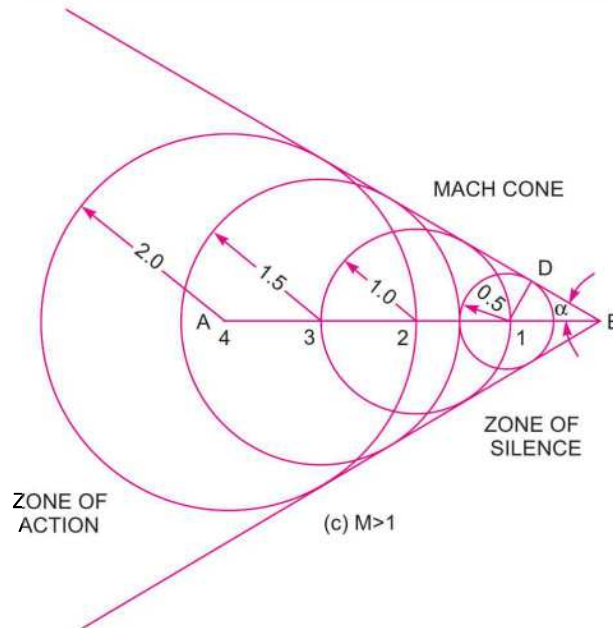

Fig. 15.3 Propagation of disturbance for different Mach numbers.
Let in 4 seconds the projectile reaches to the position  $B$ . At  $A$ , the point 4 is also marked. The position of the projectile after 1 sec, 2 sec, 3 sec and 4 sec along the lines are shown by the points 3, 2, 1 and  $B$  respectively. The projectile moves from  $A$  to  $B$  in 4 seconds and hence the distance  $AB = 4 \times V = 4 \times 1 = 4$  units. The disturbance created at  $A$  in 4 seconds will move a distance =  $4C = 4 \times 2 = 8$  units in all directions. Hence taking  $A$  as centre and radius equal to 8 units, a circle is drawn. This circle gives the position of disturbance after 4 seconds. When the projectile is at point 3, it will reach  $B$  in three seconds and distance  $3B = 3 \times V = 3 \times 1 = 3$  units. But the disturbance created at point 3 in three seconds will move a distance having a radius =  $3 \times C = 3 \times 2 = 6$  units. Similarly at point 2, the disturbance will have a radius =  $2 \times C = 4$  units and at point 1, the disturbance will have a radius =  $1 \times C = 1 \times 2 = 2$  units. This is shown in Fig. 15.3 (a).
**2nd Case : When  $M = 1$ .** When  $M = 1$ , the flow is known as sonic flow. In this case, the disturbance always travels with the projectile as shown in Fig. 15.3 (b). Let  $V = 1$  unit, and  $C = 1$  unit so that  $M = \frac{V}{C} = \frac{1}{1} = 1.0$ . Let the projectile moves from  $A$  to  $B$  in 4 seconds. The disturbance created at  $A$  in 4 seconds will move a distance having radius =  $4 \times C = 4 \times 1 = 4$  units in all directions. The projectile
**3rd Case : When  $M > 1$ .** When  $M > 1$ , the flow is known as supersonic flow. Let  $V = 1$  unit and  $C = 0.5$  unit so that  $M = \frac{V}{C} = \frac{1}{0.5} = 2.0$ , which is greater than unity. Let the projectile moves from  $A$  to  $B$  in 4 seconds. The distance travelled by the projectile in 4 seconds  $= 4 \times V = 4 \times 1 = 4$  units. Hence, take  $AB = 4$  units. The disturbance created at  $A$  will move in all directions and in 4 seconds, the radius of disturbance will be equal to  $4 \times C = 4 \times 0.5 = 2$  units. Hence taking  $A$  as centre, draw a circle with radius equal to 2 units. After one second from  $A$ , the projectile will be at point 3 and distance  $A3 = V \times 1 = 1 \times 1 = 1$  unit. The projectile from point 3 will reach point  $B$  in three seconds. Hence the disturbance created at point 3 will move in all directions and in three seconds, the radius of disturbance from point 3 will be equal to  $3 \times C = 3 \times 0.5 = 1.5$  units. Similarly the radius of disturbance at point 2 and 1 will be  $2 \times C = 2 \times 0.5 = 1$  unit and  $1 \times C = 1 \times 0.5 = 0.5$  unit respectively as shown in Fig. 15.3 (c). In this case the sphere of propagation of disturbance always lags behind the projectile. If we draw a tangent to the different circles which represent the propagated spherical waves on both sides, we shall get a cone with vertex at  $B$ . This cone is known as **Mach Cone**.
**15.6.1 Mach Angle.** This is defined as the half of the angle of the Mach cone. In Fig. 15.3 (c), angle  $\alpha$  is known as Mach angle. In the  $\triangle 1BD$  of Fig. 15.3 (c), the distance  $1B =$  Velocity of projectile  $= V$ , the distance  $1D =$  Velocity of sound wave  $= C$ . Hence we have